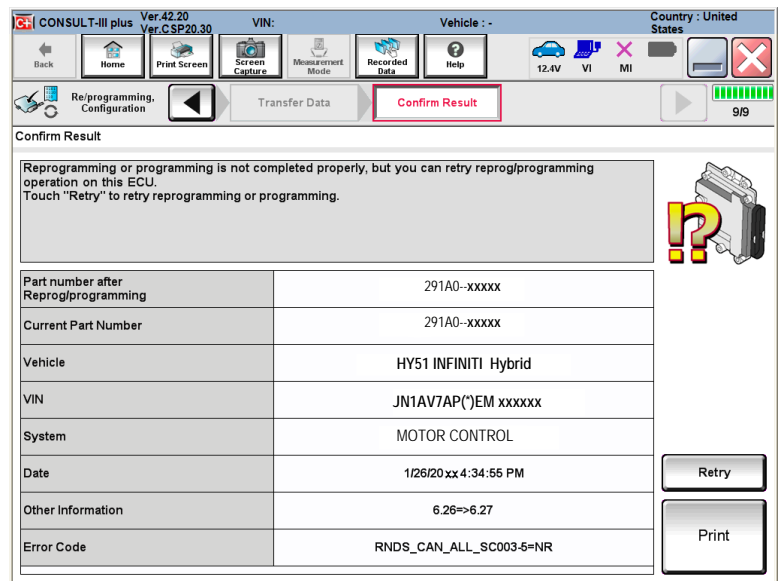

Figure 16
28. When the screen in Figure 16 displays, reprogramming is complete.
NOTE: If reprogramming does not complete and the **!?** displays as shown in Figure 16: